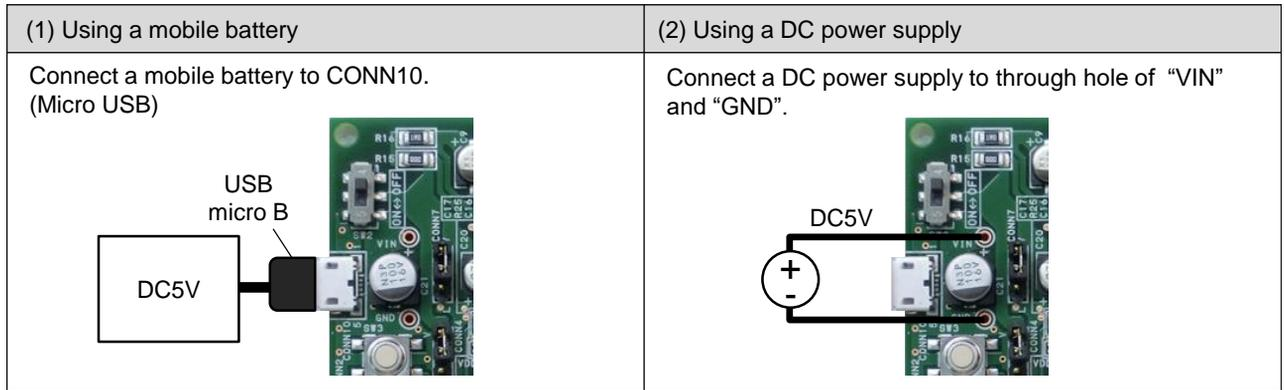

Figure 1.2 Connection method of power supply to WiQ-TX00-B00
Figure 1.2 shows the connection of an input power supply and the TX board. Connect in either of Figure 1.2 (1) or (2).